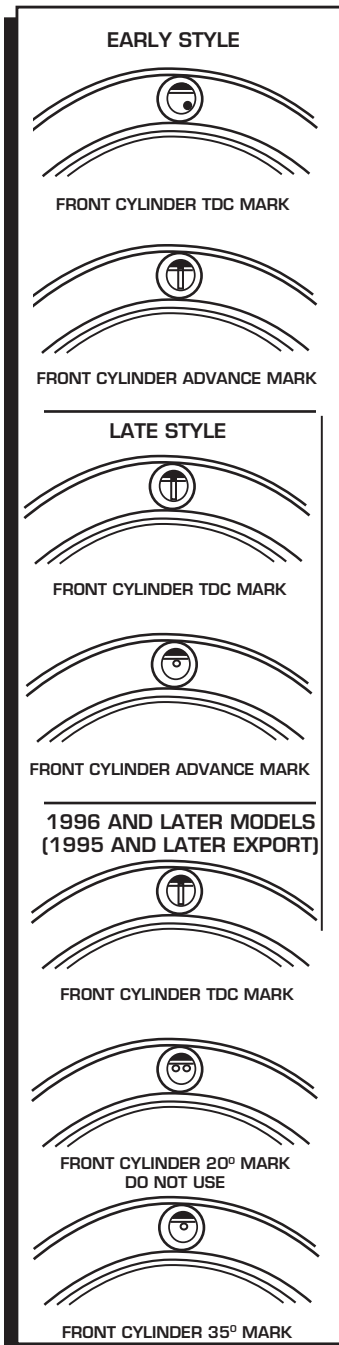

Figure 4 Top Dead Center and front Cylinder Advance Marks for Various Models.
2. The TDC and advance timing marks are located on the flywheel and can be observed via an inspection hole (refer to service manual for details). Refer to figure 4 for typical timing marks.